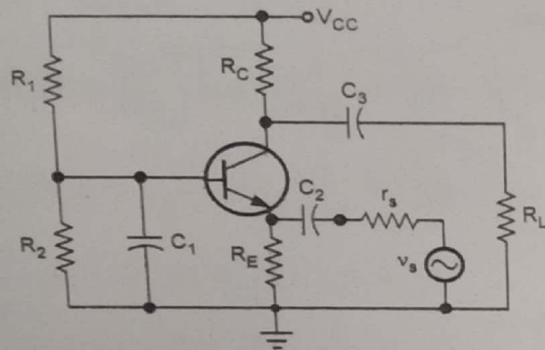

Fig. Q.21.1 CB amplifier circuit
Ans. : • Fig. Q.21.1 shows the common base (CB) amplifier circuit. Here, input is applied to the emitter via C_2 , there is no bypass capacitor, base terminal is ac grounded via C_1 and the output voltage is developed across R_C .